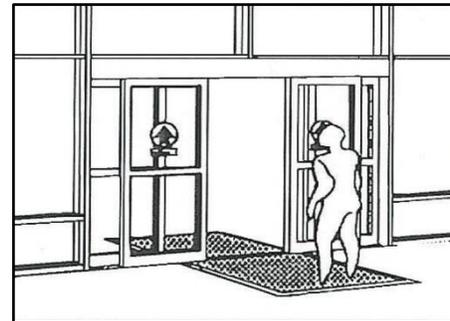

FIGURE 8
1. Step on the "opening" (activating) mat in several places. Door should slide open smoothly and stop without impact. (See Figure 8)